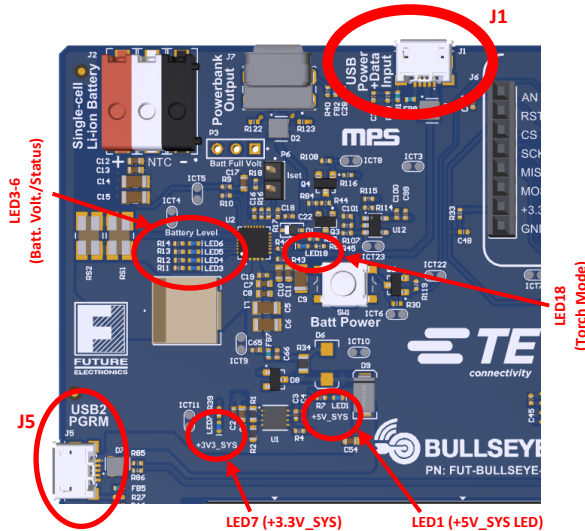

Fig.4
- For demonstration purposes, connect a +5V USB power supply, or a computer USB port, to the USB micro-B connector (**J1**) “USB Power+Data” at the top left of the Bullseye board (Fig.4).